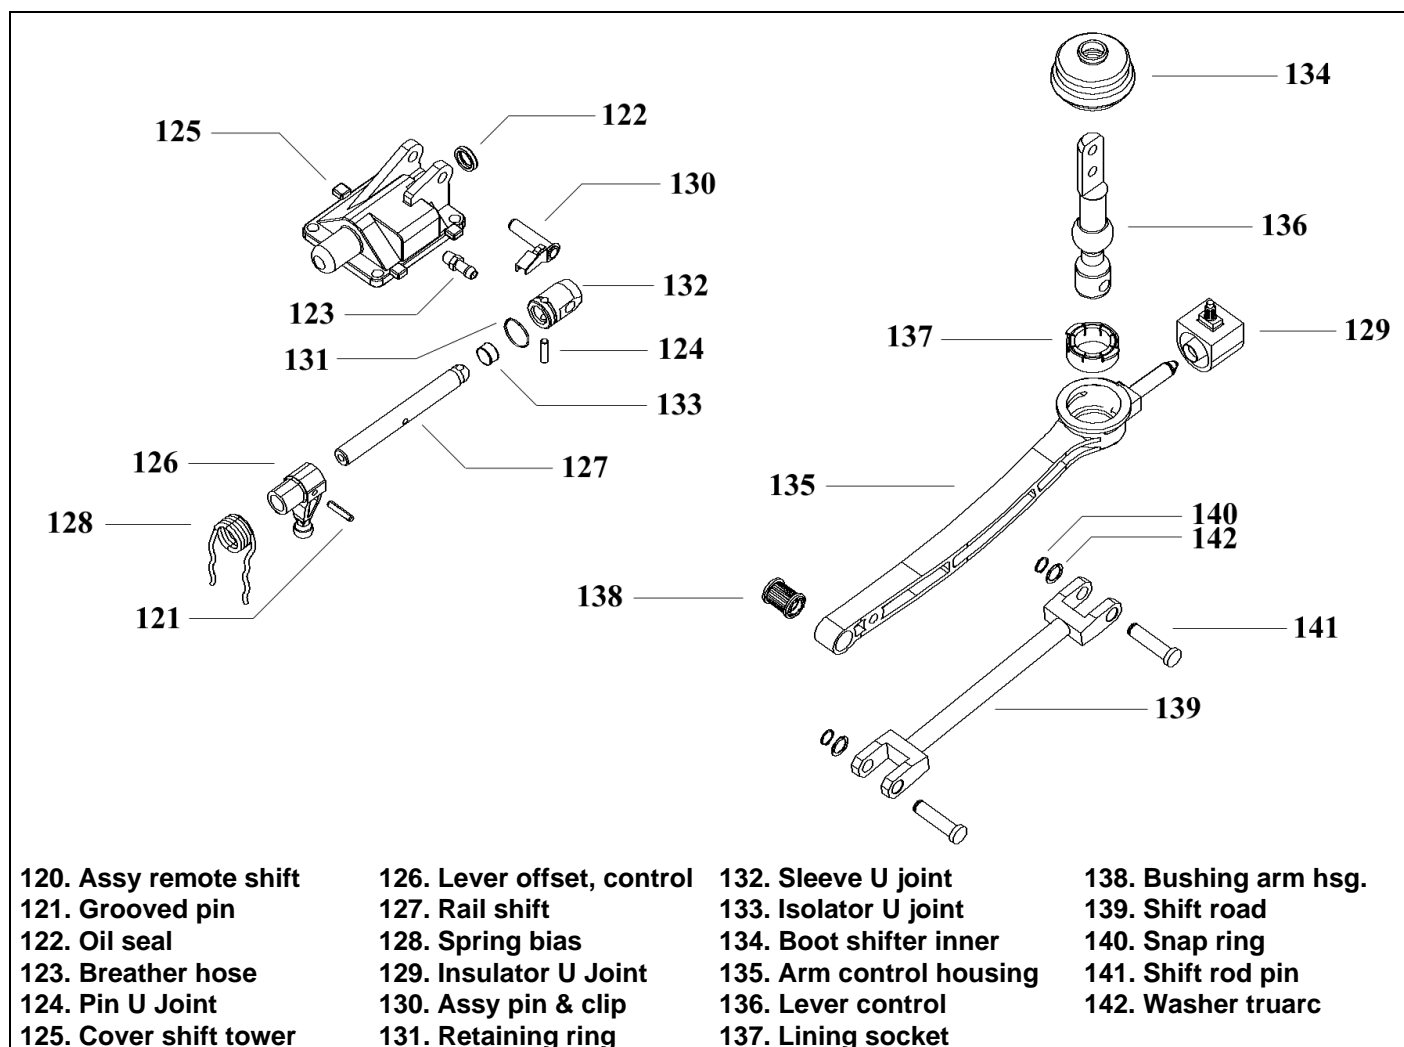

Figure 3-2. T5 WC Control Semi-Remote
**Failure to shift transmission into neutral at 3-4 position before removing control lever and housing assembly may result in driving roll pin (15, figure 3-2) into detent guide plate (18) when pin is removed (paragraph 3-8).**
- c. Remove screws (2). If extended control lever and housing assembly (3C) is used, also remove screws (2A).
- d. If necessary, use suitable knife to break sealant bond between control lever and housing assembly (2A, 3B, or 3C) and extension (17A) or adapter (17B). Remove control lever and housing assembly. Remove boot (4) only if replacement is required.
- f. As used, remove neutral switch (6), pin (7), harness retainer (8), screw (9), speedo adapter (10) roll pin (11), speedo driving gear (12) oil seal (13) and o-ring (14).
**3-8. REMOVAL OF T5 WC CONTROL SEMI-REMOTE.** This only applies to transmission equipped with semi-remote control. With the transmission placed on a work bench, disassemble the semi-remote control following these steps: (see figure 3-2)
- a. Remove bolts (2).
- b. Revise the U joint insulator (129) if it too lose, replace it.
- c. To pull out the shift rod pins (141), first remove the two snap rings (140) and washers (142) and then remove the shift road (139).
- d. Remove the inner shifter boot (134) and the control lever (136) by pulling it off the lining socket (137),
- e. With the help of a small screwdriver remove the arm control housing. (135) by removing the pin & clip assy (130).
- f. Using a punching tool, remove the U joint pin (124) from the shift rail (127), inspect the U joint sleeve (132) it should not be too lose. If necessary remove the retaining ring (131) and replace the U joint isolator (133).
- g. To remove the shift rail (127) the grooved pin (121) has to be removed first, to do this place the cover assembly on its side and use a punching tool.
- h. Remove the bias spring (128) from the control offset lever (126) and inspect for wear on the speed selector.
- i. Remove the shift tower cover (125) and inspect for wear on the shift rail hole. Replace the necessary.
- j. If necessary to remove the oil seal (122), use a small screw driver.